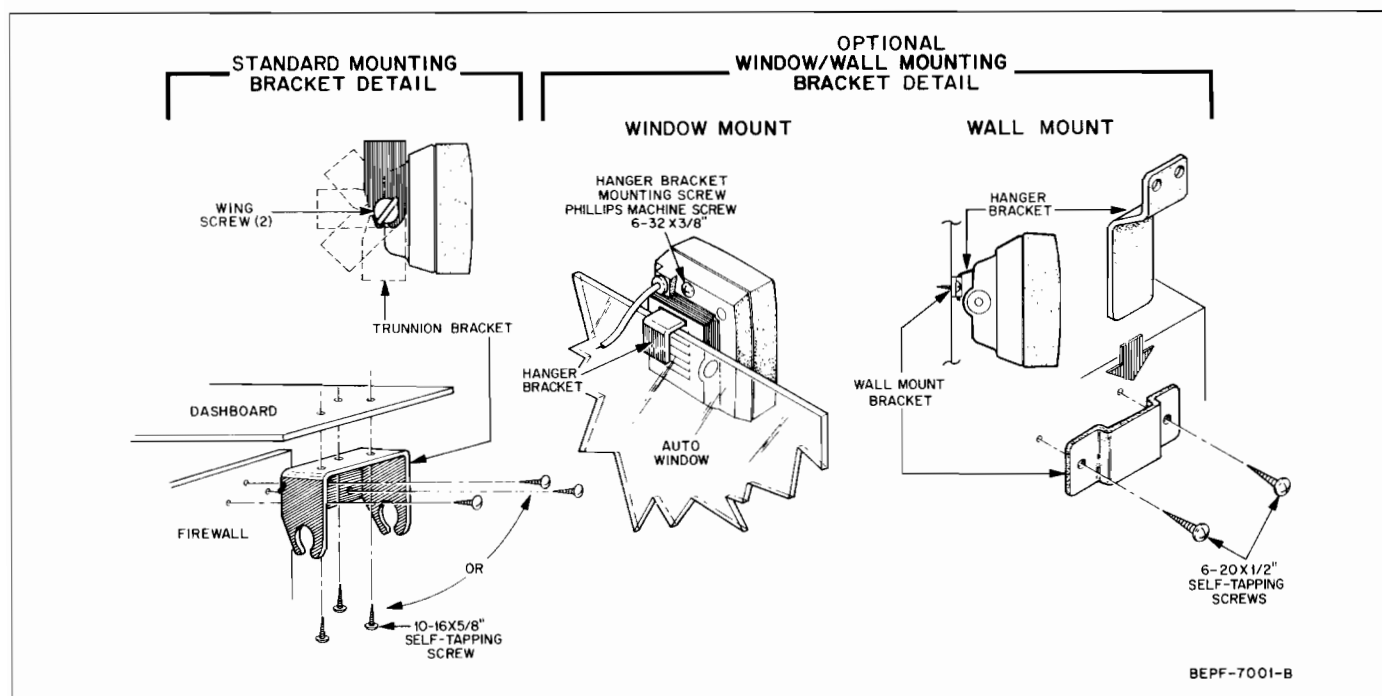

Figure 4. External 1/2W Speaker Installation Detail
The optional speaker is normally mounted under the dash, near the right side of the vehicle. However, the trunnion bracket permits mounting the speaker against a wall or at the bottom of the dash. Avoid mounting the speaker on the floor where high passenger traffic exists. A metal strap-type bracket is provided for mounting the speaker. If desired, the trunnion bracket can be removed and the hanger bracket (mounted on the back of the speaker) can be used to temporarily hang the speaker on the vehicle door or window to permit monitoring radio messages while the driver is outside the vehicle. Refer to Figure 4 for details.
1. Using the speaker trunion bracket as a template, drill the necessary mounting holes and secure the bracket with the self-tapping screws provided in Speaker Mounting Hardware Kit, part no.0105954C50. Refer to Figure 4 for details.